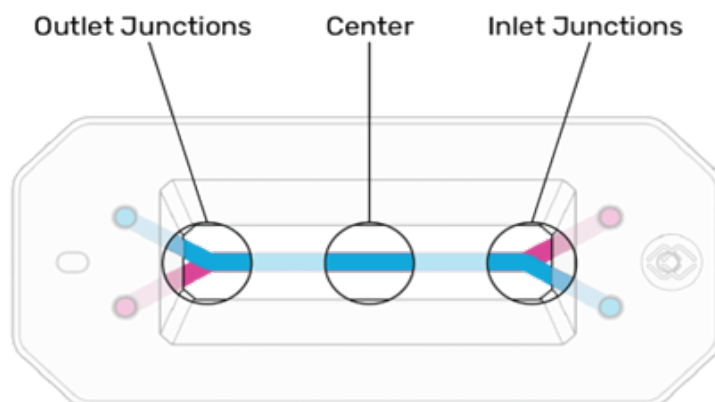

Figure 28. Diagram of a Chip-R1 and the recommended areas to take brightfield images to assess cell health of the top and bottom channels.
4. Using a microscope, inspect chips for the presence of bubbles in the channels, and inspect cells in the chips to assess morphology and viability. Capture representative images at 10X or 20X magnification at the following locations (Figure 28):